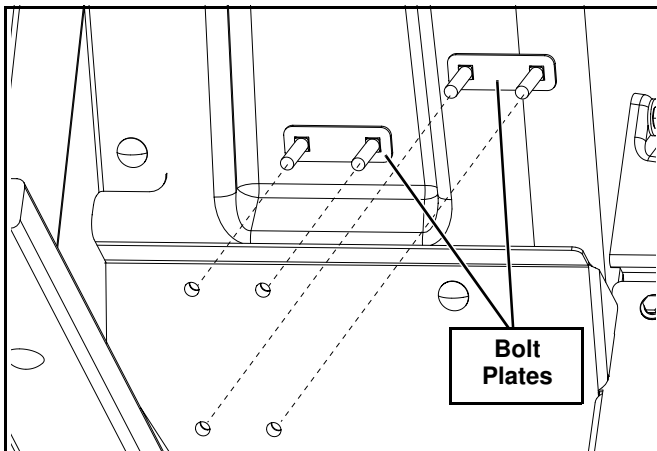

Figure 4
5. Install the upper and lower vibrator bolt plates from inside the hopper out. (See Figure 4)